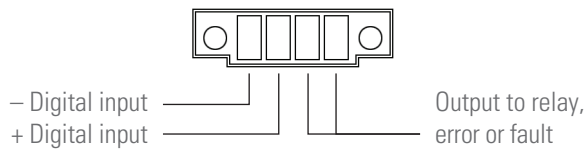

Fig. 15. Digital input/output to relay connector.
- The device has a four-terminal connector for a digital input and output to relay (see Fig. 15).
- Error or fault dry contact. Any error or fault will modify the state of the normally open (NO) 24V DC 1A contact. (PAY ATTENTION to the voltage and current applied).